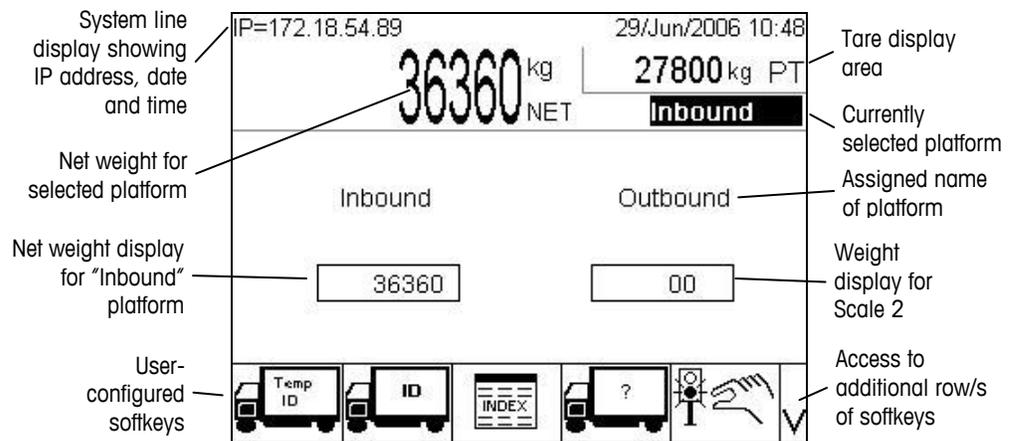

Figure 2-1: Elements of the Home Screen
Figure 2-1 shows an IND780drive Home screen, with two platforms in use. In this example, a tare (PT) has been taken for the vehicle on Scale 1 (assigned the name "Inbound" in setup).
- ◀ The softkeys visible in the screen shown in Figure 2-1 are determined in setup. The selection of available softkeys will vary between terminals.